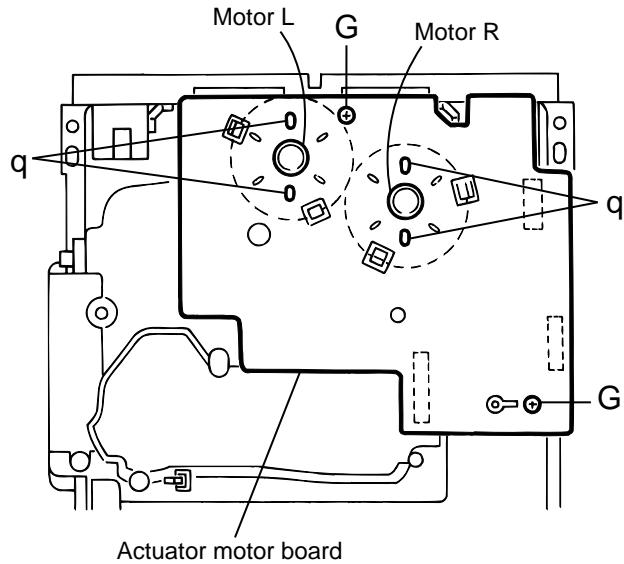

Fig.14
(See Fig.14, 15)
- Absorb the four soldered positions "q" of the right and left motors with a soldering absorber(See Fig.14).
- Remove the two screws G retaining the actuator motor board(See Fig.14).